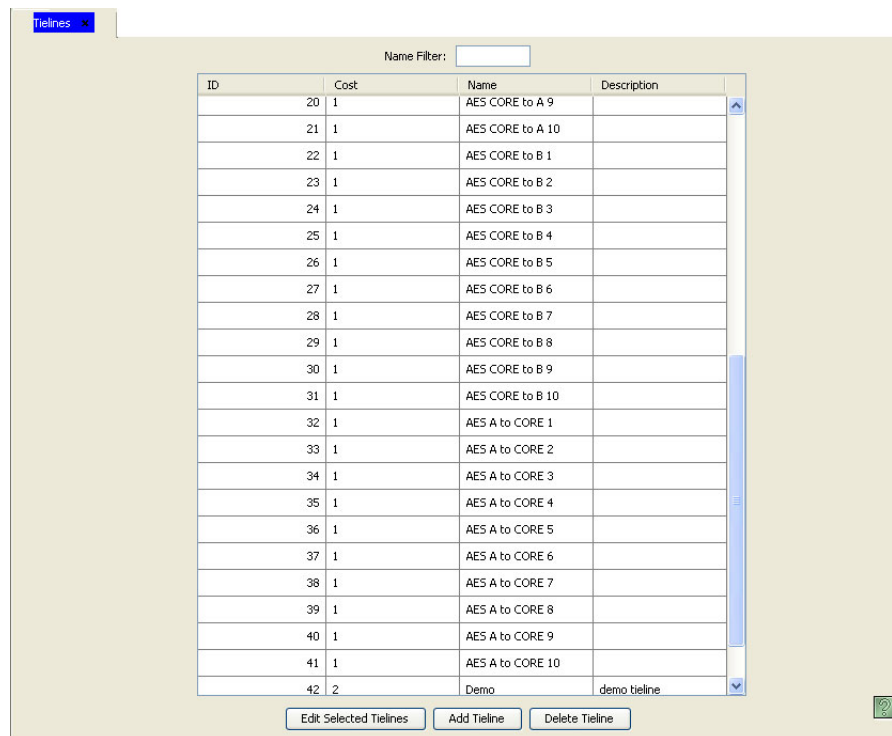

Figure 16-5. Tieline Page
- 2 From the Navigation area, select the 'Configuration' pane and then 'Tielines'. The 'Tielines' page displays, as shown in Figure 16-5. All tielines currently defined in the system are listed.